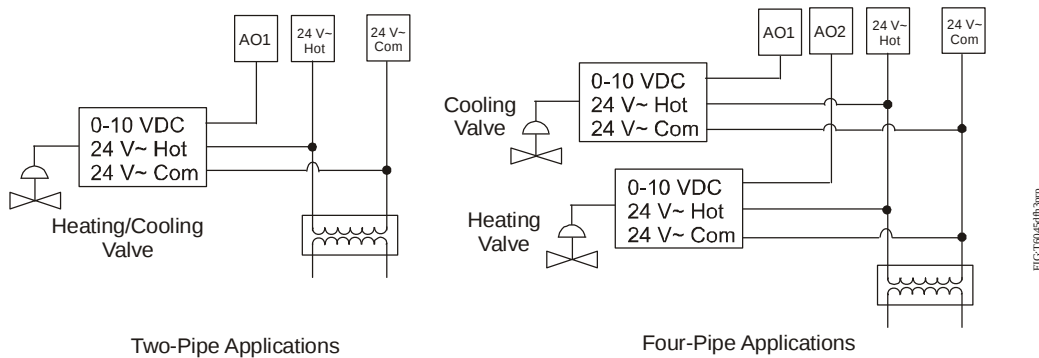

Figure 9: Wiring T604DFH-4 and T605DFH-4 Thermostat Controllers for Proportional Control
1. Strip the ends of each wire a 1/4 in. (6 mm) and connect them to the appropriate screw terminals as indicated in Table 1 and Figure 5 through Figure 9.